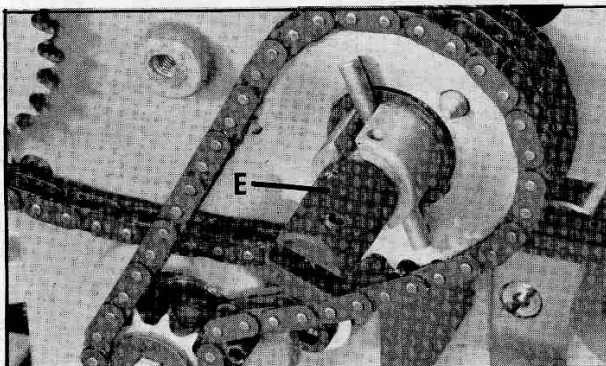

Fig. 21
5. Fig. 21, illustrates the shifter bracket (E) in the assembled position.